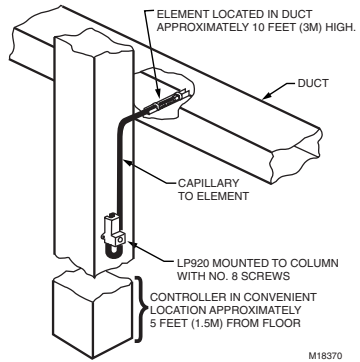

Fig. 5. LP920 remote bulb model.
2. Insert the bulb into a 1 in. (25mm) hole in the duct work as with the integral bulb installation. See Fig. 5.